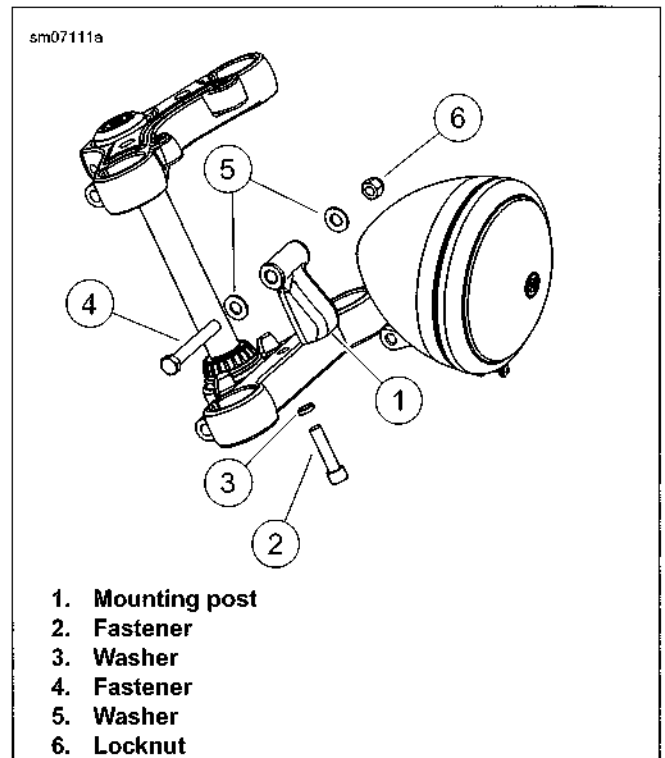

Figure 6-36. Headlamp Mount: XL 1200V/C/CP/CA/CB
1. See Figure 6-36. Remove main fuse.
2. Install fastener (2), washer (3) and mounting post (1). Tighten to 30-35 ft-lbs (41-47 Nm).
3. Assemble washer stack (5) and fastener (4). Install headlamp assembly. Hand tighten.
6. Tighten headlamp locknut (6) to 30-35 ft-lbs (41-47 Nm).